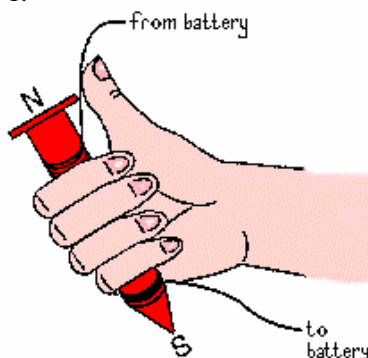

Figure C-1
*Inducing a Current:* Inductors work by creating a magnetic field. When you run a current through an inductor it becomes an electromagnet. The direction of the magnetic field can be found by placing your right hand around the core in the direction of the coil. Your thumb will point in the direction of the magnetic field, as shown in figure C-1.